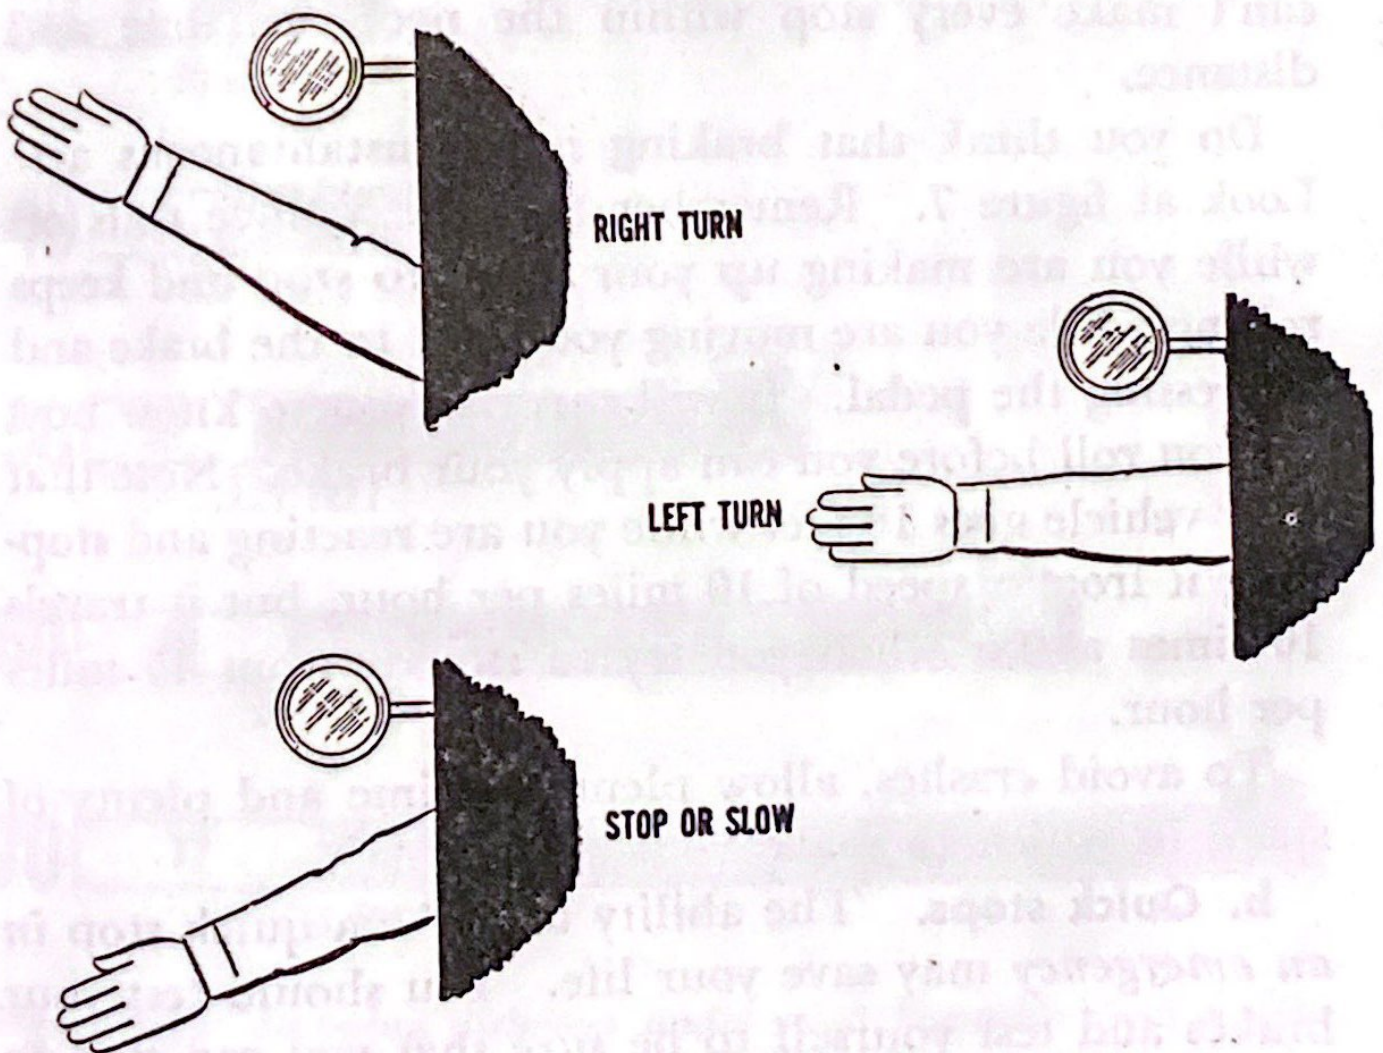

Figure 6. Hand signals.
b. The following signals will clearly indicate your intentions. They are widely used. Therefore they are sure to be understood by the other fellow and will help you avoid trouble. (See fig. 6.)